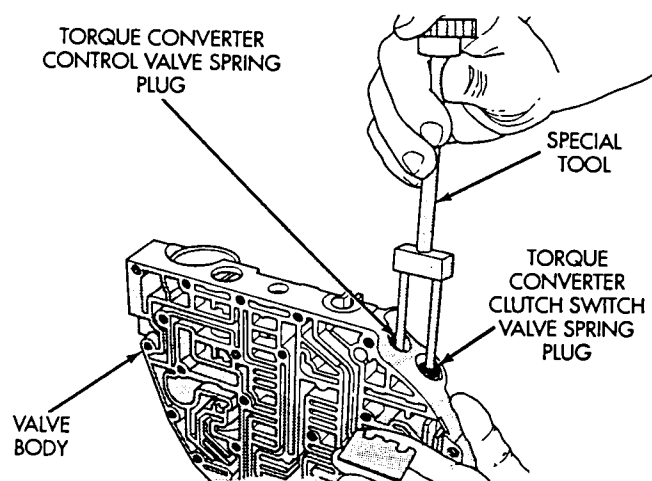

Fig. 14 Remove or Install Dual Retainer Plate
(8) Remove dual retainer plate from valve body. Use special tool 6301 to remove plate (Fig. 14).